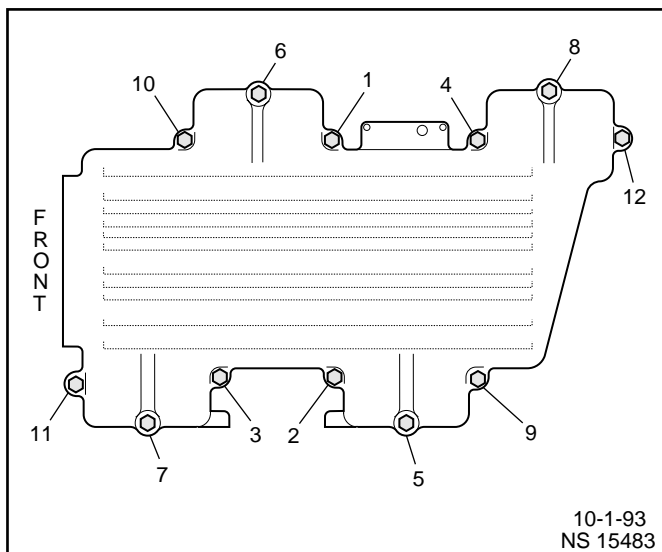

Figure 3-14 - Intake Plenum Tightening Sequence
- 4. All plenum retaining bolts. Torque to 14 N·m (124 lb.in.) in sequence as shown in Figure 3-14.